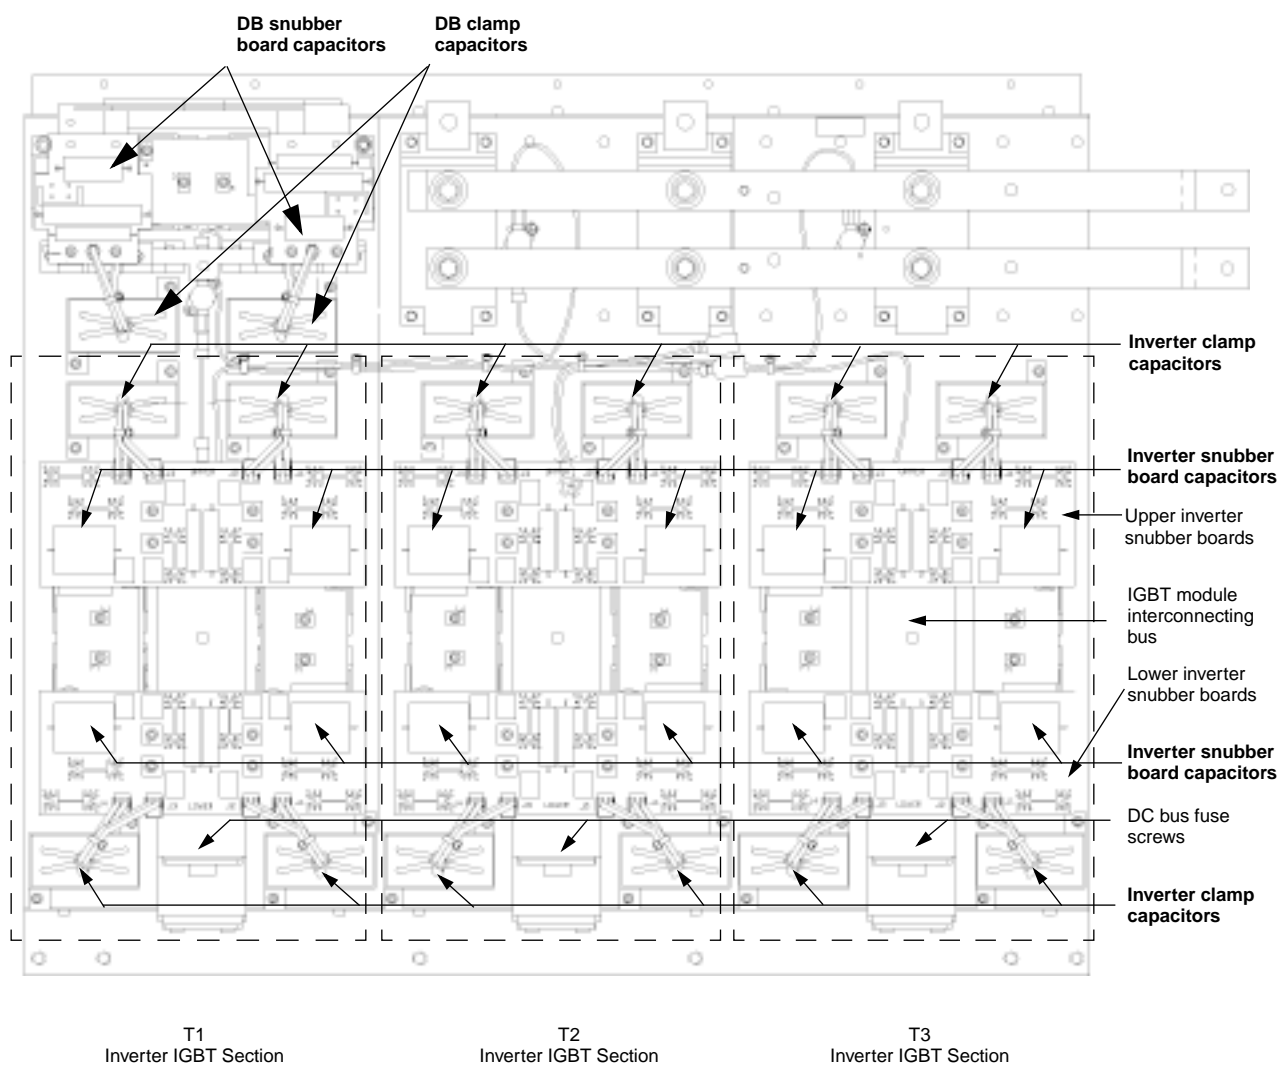

Figure 4.3.23: Inverter IGBT Sections
There are three inverter IGBT sections in the ATV66C23N4 to C31N4 drive controllers (see Figure 4.3.23). The inverter IGBT kit contains one upper and one lower snubber board, two gate driver boards and four IGBT modules.
- Clamp capacitors. Refer to Figure 4.3.3 on page 4.3.7 and Figure 4.3.23 on page 4.3.29 on for location.
- Snubber boards. Refer to Figure 4.3.23 for location.